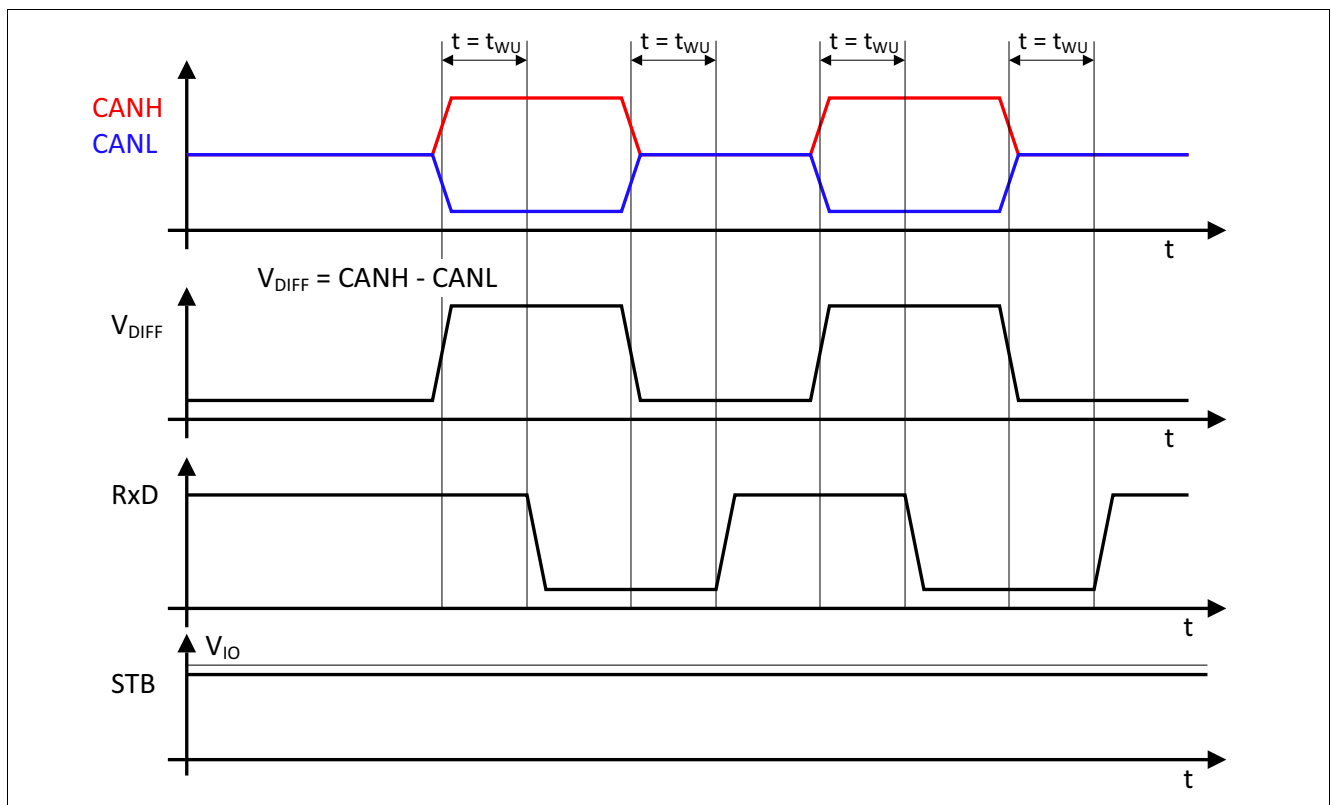

Figure 5 Wake-up pattern
- The RxD output is “high”, in case no wake-up signal on the CAN bus is detected (see Figure 5).
- The RxD output toggles according to the wake-up signal on the CAN bus (see Figure 5).
CAN bus signals, “dominant” or “recessive”, with a pulse width above the bus wake-up time $t > t_{WU}$ are indicated on the RxD output pin (see **Figure 5**).